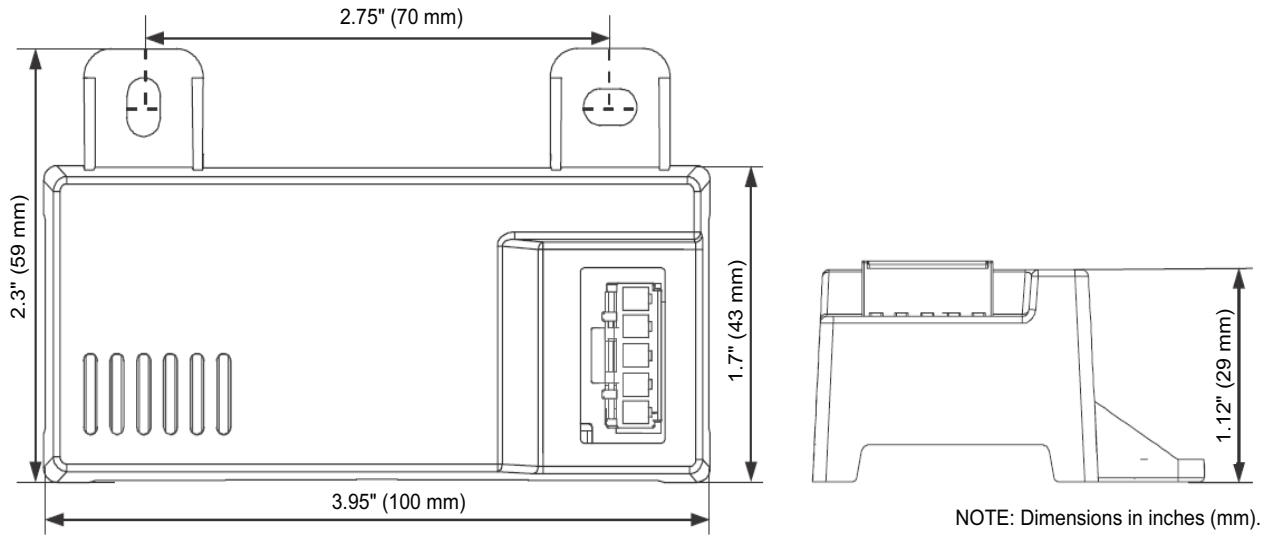
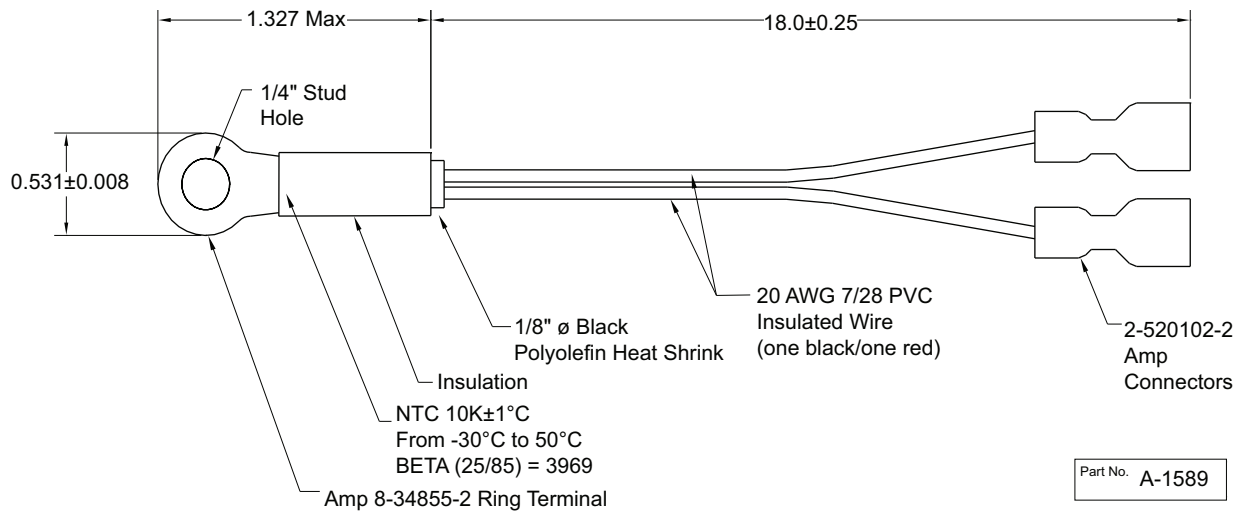
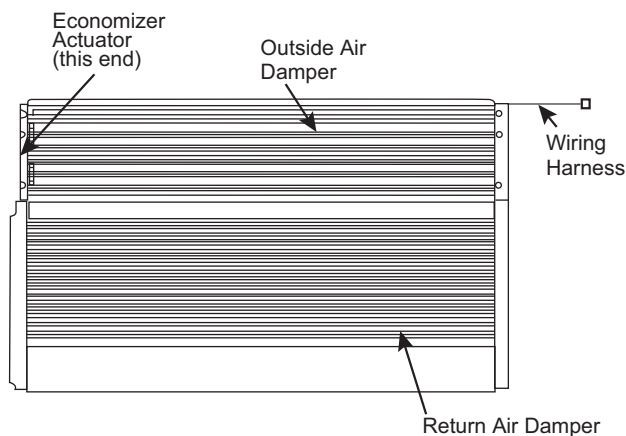

Fig. 88 — HH57LW001 Dimensional, Connection and Switching Information
Fig. 89 — HH79NZ039 Dry Bulb and Mixed Air Sensor Wiring
Fig. 90 — EconomizerONE System Component Locations
When using the HH57LW001 enthalpy sensor (see Fig. 88) for outside air changeover, the existing HH79NZ039 dry bulb sensor (see Fig. 89) must be removed. The enthalpy sensor will be mounted in the same location as the dry bulb sensor (see Fig. 90). When the enthalpy sensor's OA (Outside Air) temperature, enthalpy, and dew point are below their respective set points, outside air can be used for free cooling. When any of these are above their set point, free cooling will not be available. Enthalpy set points are configurable and create an enthalpy boundary according to the user's input. For additional details, see Fig. 91-92 and Table 32.
The optional enthalpy control sensor (P/N: HH57LW001) communicates with the POL224 economizer controller using the 5-wire harness, 48TC005213. The HH57LW001 sensor can be used as a single outside air enthalpy, a differential return enthalpy, or a differential return temperature sensor. Refer to the base unit control wiring diagrams found earlier in this book to wire the HH57LW001 enthalpy sensor for each option. See Fig. 88 and Table 34 on page 72 to locate the wiring terminals for each enthalpy control sensor.
Economizers are shipped standard with an HH79NZ039 outside air dry bulb sensor (refer to Fig. 89). System default setting (high temp limit) is 63°F (17°C) and has a range of 48°F to 80°F (9°C to 27°C). Sensor is factory installed on economizer.
If installing the optional HH57LW001 enthalpy sensor, the HH79NZ039 dry bulb outside air sensor must first be removed. Wire sensor to harness 48TC005213 and the (5) wires from the harness to the EconomizerONE harness in the return air chamber. Harness 48TC005213 has a 5-pin plug that connects directly to the HH57LW001 enthalpy sensor. Refer to the base unit control wiring diagrams earlier in this book for wiring connections. Refer to Fig. 88 and see Table 34.